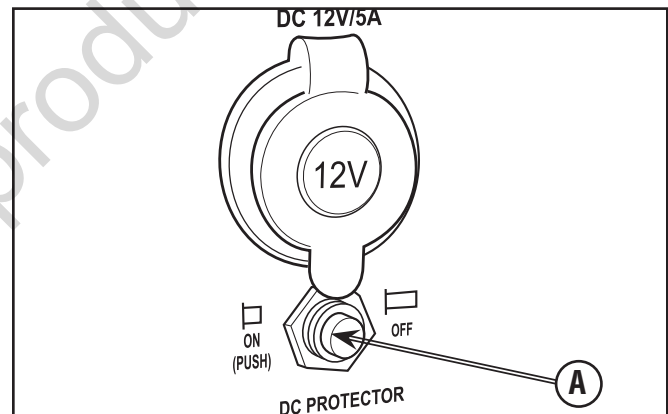

Figure 65
1. Press the DC circuit breaker (A, Figure 65) and retest. If still no DC output, proceed to Step 2.